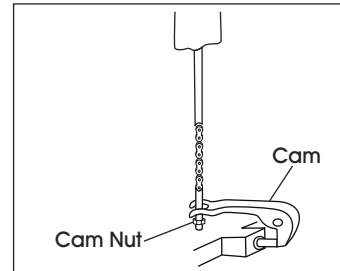

Figure 2
2. Alternate turning the cam nut and pumping the handle. (See Figure 2)